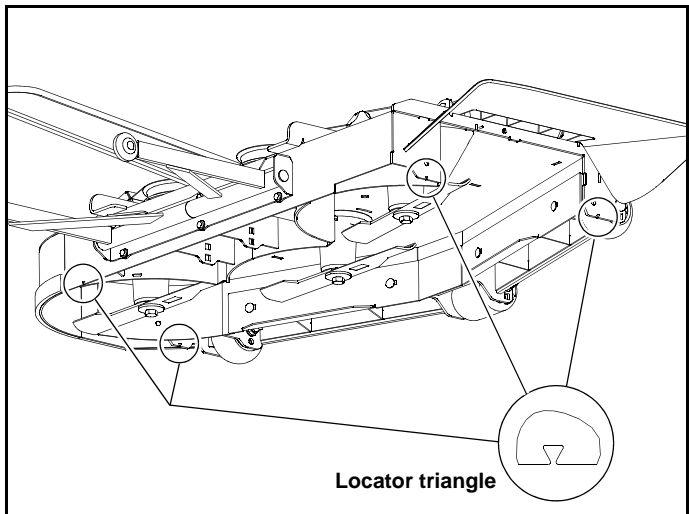

Figure 6-1
3. **VX4 Side Discharge Decks** – Place 3" high deck support blocks (two stacked 2" x 4" blocks can be used to create a 3" [76.2mm] high support) at the four corners of the deck marked with the locator triangle as shown. Figure 6-1